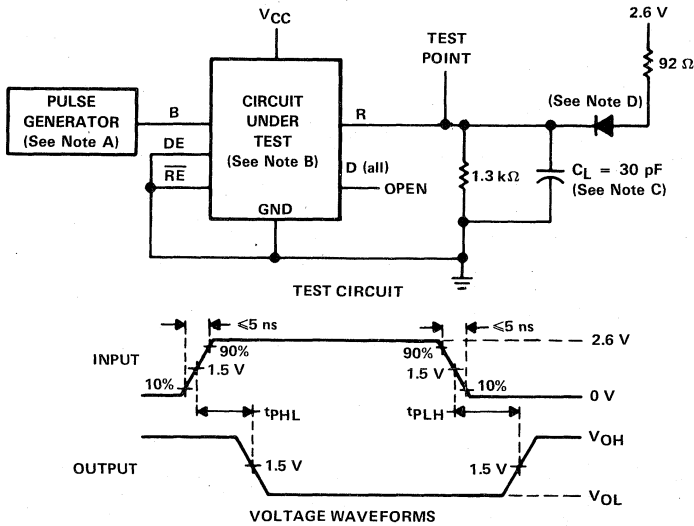

FIGURE 1. PROPAGATION DELAY TIMES FROM BUS TO RECEIVER OUTPUT
- NOTES: A. The pulse generator in Figures 1 and 2 has the following characteristics: PRR \leq 10 MHz, duty cycle = 50%, $Z_0 \approx$ 50 Ω .